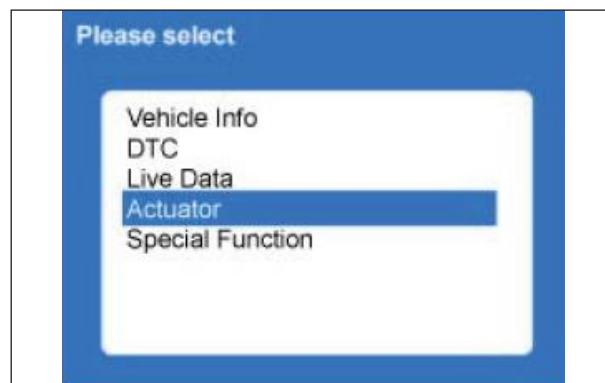

Fig. 7.19
- This menu displays all the actuators in the vehicle. (Fig. 7.19)